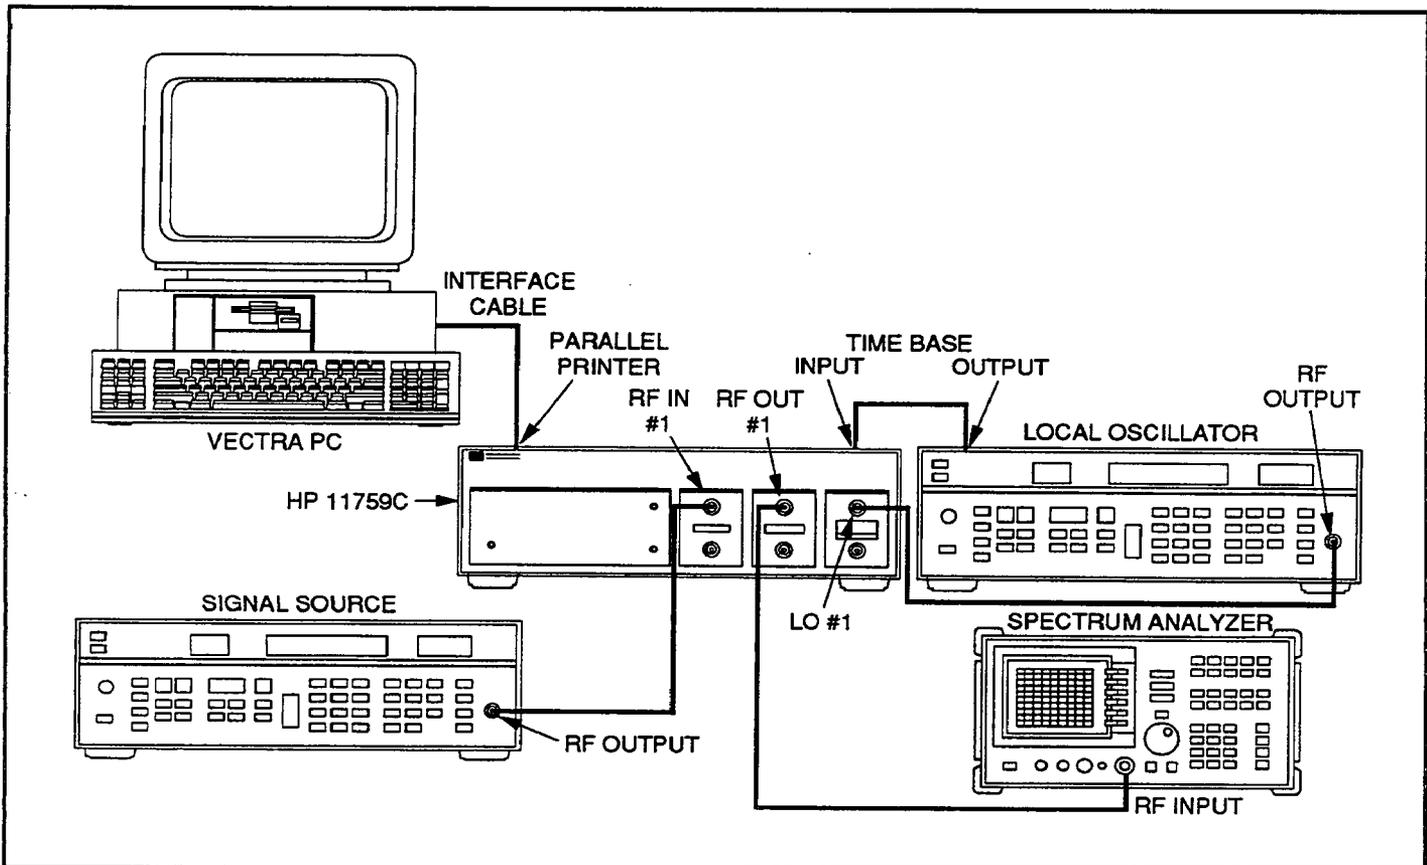

Figure 5-1. Path to Path Insertion Loss Adjustment Setup
1. Connect the test equipment as shown in figure 5-1.
The standard instrument is shown in figure 5-1. Connection to instruments with options is the same, making connections on the rear panel in lieu of the front panel when necessary.